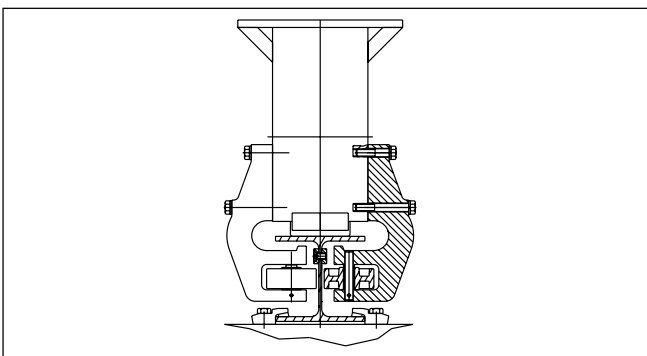

Fig. 5 - Traversing on rails.
The trolley is guided along the track by guide wheels (8) placed laterally on the roller frames (Fig. 5).